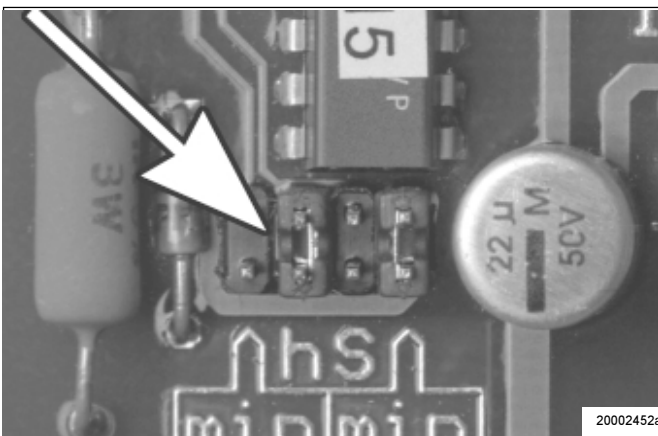

Fig. 9 - Preselection of the time range
Note: To reset a jumper (Fig. 9), remove the printed circuit board.
- The time ranges can be modified by replugging the jumper (Fig. 9) on the printed circuit board.